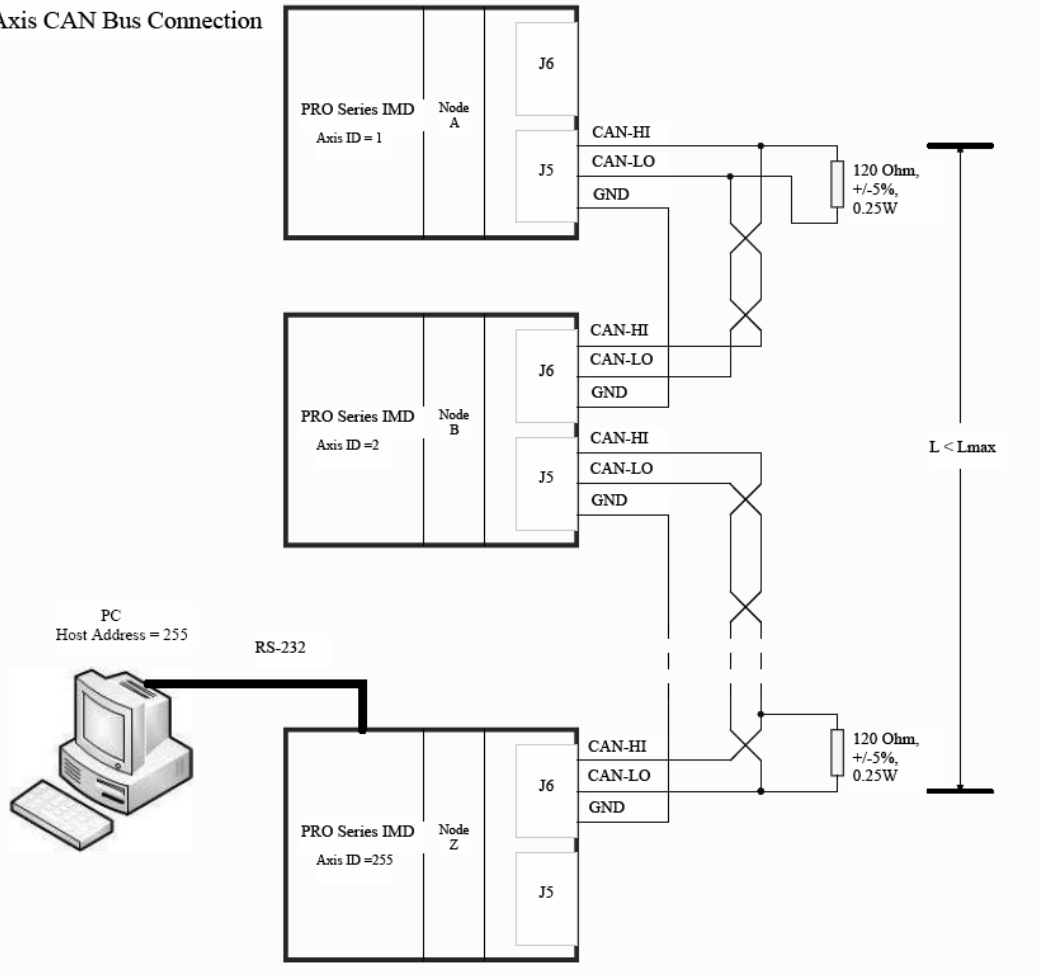

Figure 3.6. Multiple-Axis CAN network
1. The CAN network requires a 120-Ohm terminator. This is not included in the drive. Figure 3.6 shows how to connect it on your network.
1. The axis IDs in **Figure 3.6**, are valid for MPLCAN mode. For CANopen mode, the highest axis ID a drive can have is 127.